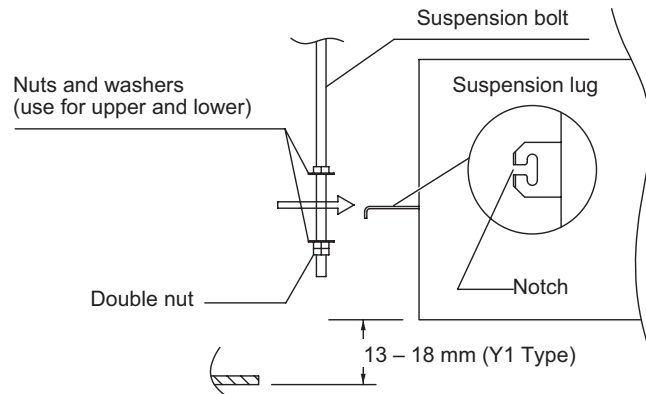

Fig. 2-57
- (3) Thread the 3 hexagonal nuts and 2 washers (field supply) onto each of the 4 suspension bolts (Fig. 2-57). Use 1 nut and 1 washer for the upper side, and 2 nuts and 1 washer for the lower side, so that the unit will not fall off the suspension lugs.